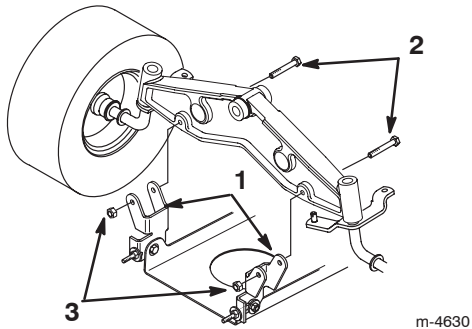

Figure 39
8. Remove the bolts and lock nuts and pull the two mower pivot mount brackets down from the front axle (Fig. 39).